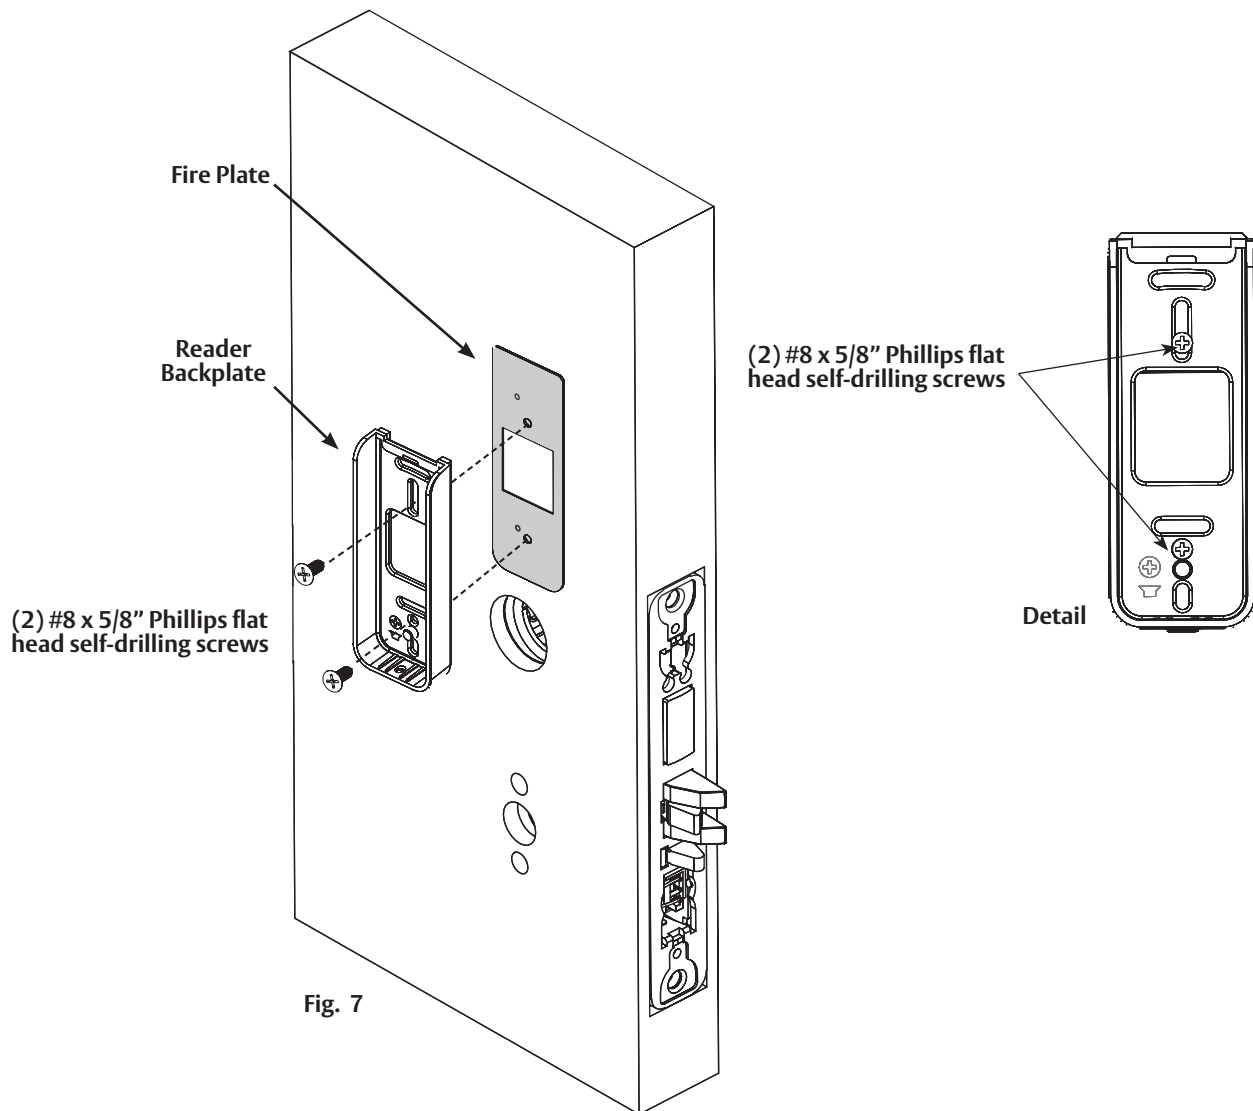

Fig. 7
For fire-rated doors only, install reader backplate and fire shield to door using two (2) #8-18 x 5/8" Phillips flat head self-drilling screws (Fig. 7).